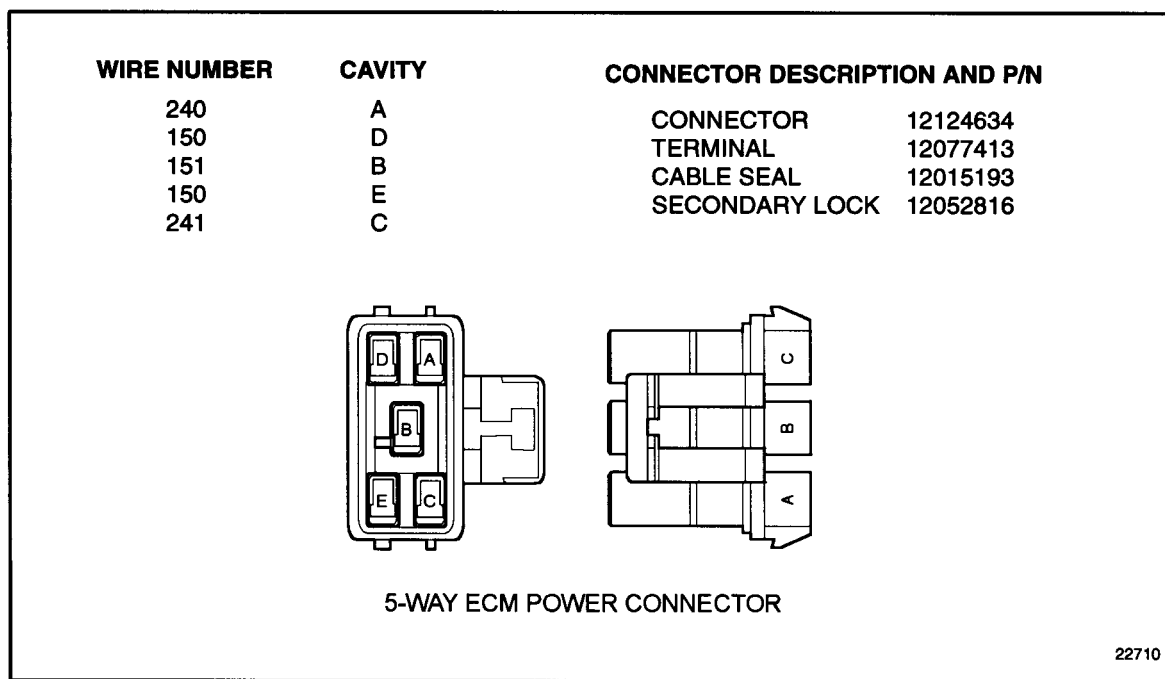

Figure 46-5 5-Way ECM Power Harness
For 5-way ECM power harness, see Figure 46-5.
1. Disconnect the 5-way power harness connectors at the ECM. For 5-way ECM power harness, see Figure 46-5.